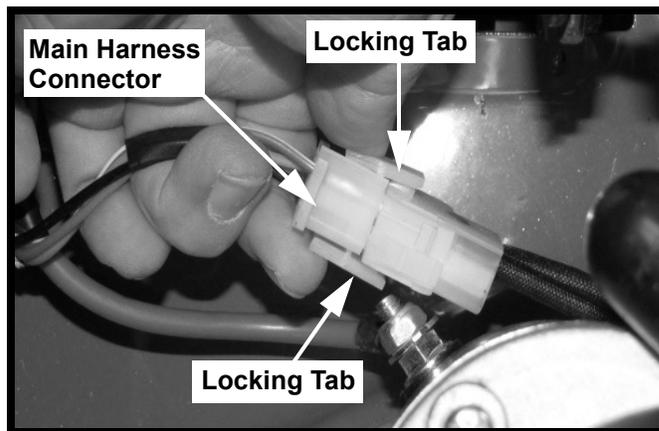

FIGURE 2
4. Disconnect the main harness connector from the engine harness connector by squeezing the two locking tabs on the main harness connector as shown in Figure 2, then separate the connectors.